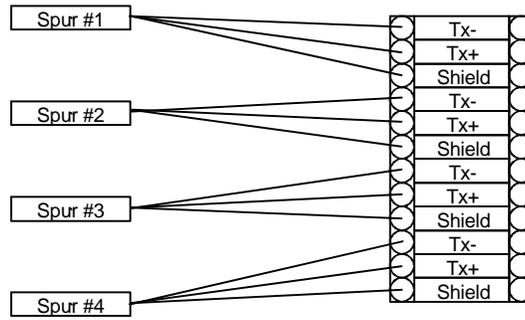

Figure 4 – Connecting the Spur Wires to One Side of the Jumper Block
3. On one side of the jumper block connect all three wires from each spur (see Figure 4).